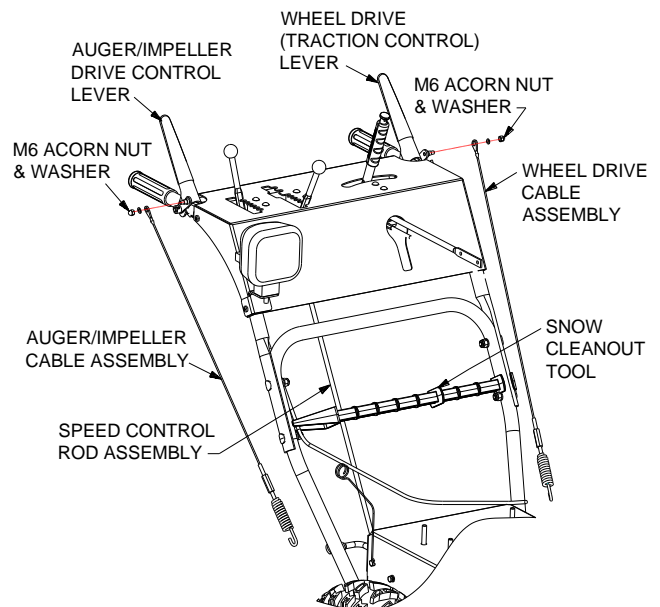

FIG 1
2.1.1 Before installing handle assembly, connect eyelet end of Wheel Drive Cable Assembly to threaded stud located on left hand drive handle with M6 acorn nut and washer. Connect hook end of cable assembly to wheel drive assembly control pulling plate. (FIG 1)
2.2.1 Before installing handle assembly, connect eyelet end of Auger/Impeller Cable Assembly to threaded stud located on right hand drive handle with M6 acorn nut and washer. Connect hook end of cable assembly to auger/impeller drive assembly control arm. (FIG 1)
has been pre-assembled. Ensure that rod swivel, cotter pin, and pre-set adjustment nut are in place. Attach the lower end of rod assembly to the speed selector control rod assembly located at the back center of the engine support frame; insert rod into hole provided and install flat washers and cotter pin. (FIG 1)
1	Snow clean-out tool (FIG 1)